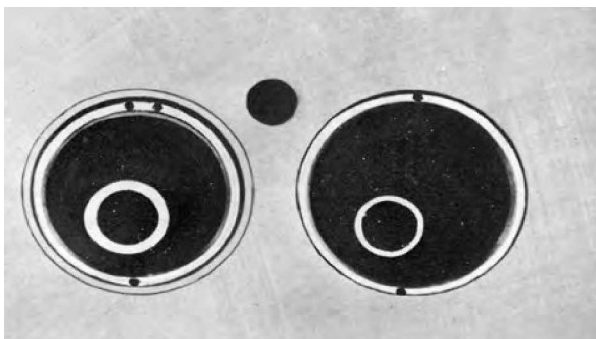

Fig. B1. Replacing the valve seat
1. Remove the old valve seat by grinding two diametrically placed fracture indications (see Fig. B1). Make sure when doing this that the cylinder head is not damaged.